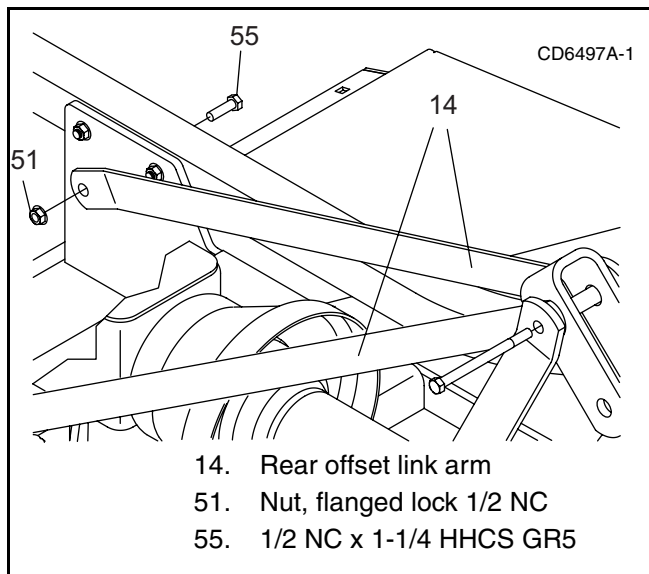

Figure 24. Right Rear Offset Link Installed
1. Loosen nut (51) and bolt (55) at rear frame lug and attach rear offset link arm (14) as shown in Figure 24. (Do not use wheel tube bolt.)